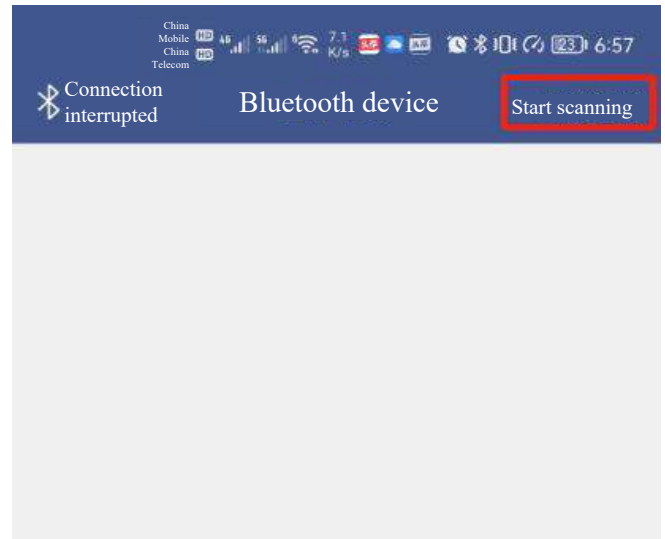

Figure 2.8
- ② Start scanning; if nothing is displayed, click it for another more times, as shown in Figure 2.8.